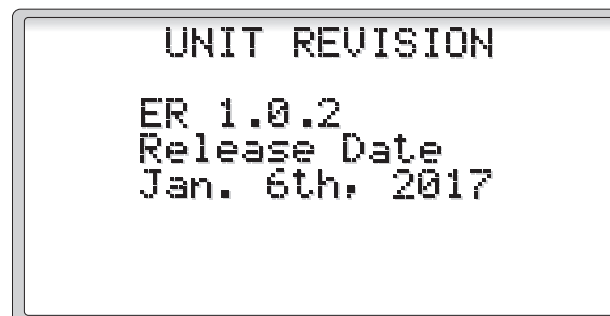

Figure 37
2.2.4 Unit Revision (Figure 37)
The Unit Revision screen shows the version of the application program that is running along with the release date of the software. See Figure 37. This information should be passed to Desert Aire in the event of a service call is necessary.